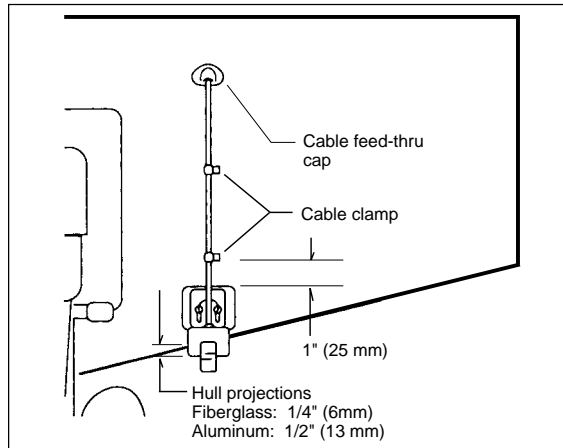

Fig. 2-14
1. Route the cable up and over the top edge of the transom. See Fig. 2-14. Secure the cable using cable clamps. (These clamps are available from your local marine equipment supplier.)